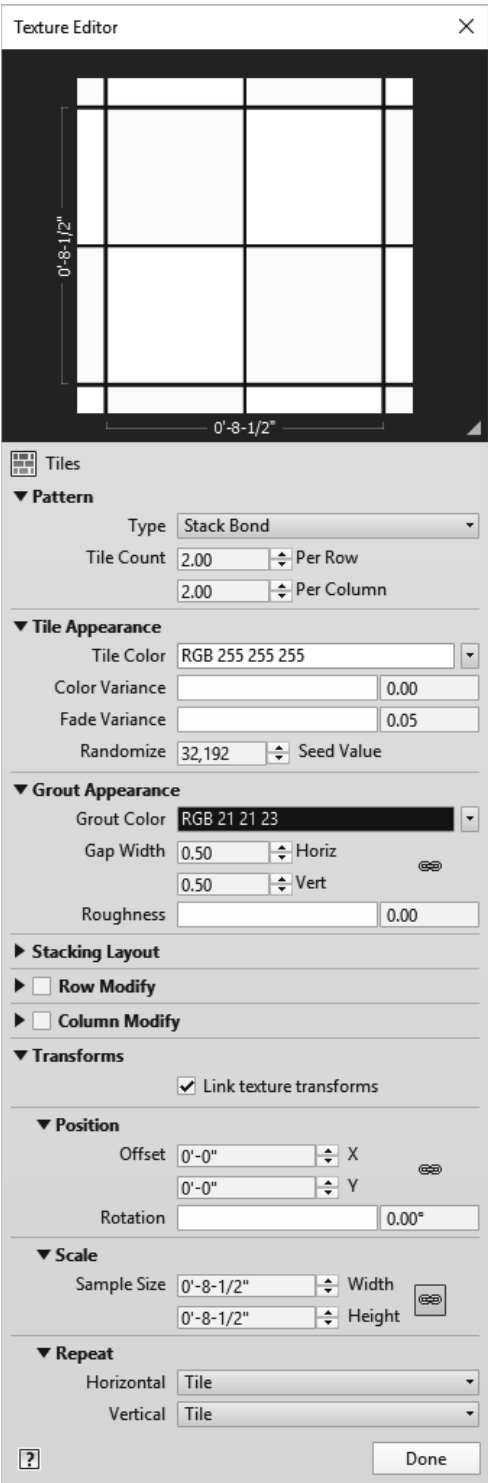

FIGURE 4-4.7 Texture Editor for relief pattern
- 25. Adjust the settings to match Figure 4-4.7.